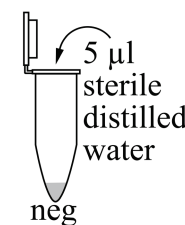

Fig. 17
11. Using a P20 micropipette and a sterile tip, add 5 μ l sterile distilled water to tube “neg” (Fig. 17).